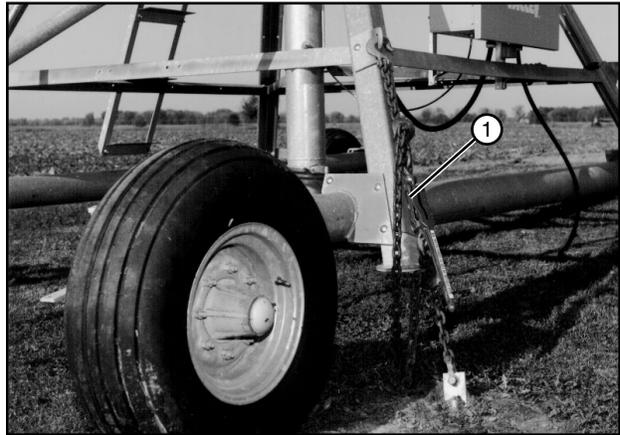

Figure 48-2 1. Load binder
9. Remove the load binders at each corner of the pivot. See figure 48-2.